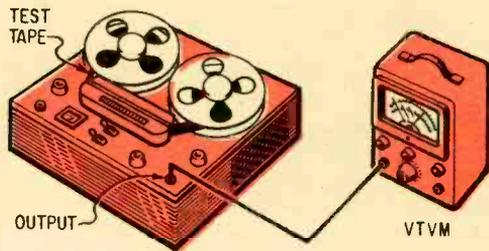

Fig. 1—For playback frequency-response test, measure the machine's output with a test tape that has constant-level tones from 50-15,000 cps.
Crystal Radio. This one's a classic since it's so old and does so much with so little. It demonstrates fundamental concepts applicable to any receiver: tuning, detection and audio reproduction. Its schematic is shown in Fig. 1 along with oscilloscope photos that show the incoming signal and what happens to it.
Fig. 1—Simplest radio is a crystal set—a modern-day version of the old cat's-whisker design. It requires no operating power. Incoming signal is tuned by L1,C1 combination. Selected signal is rectified by D1. RF is stripped away (filtered) by C2. Remaining audio signal drives phones directly. Photos show signals in circuit when the radio receives an 800-kc RF signal which is modulated by a 1,000-cps audio signal. To improve the selectivity, connect (broken line) D1 to the tap (2) on L1.
but nagging things that cause general degradation of performance. If you want to check the results of your efforts, run a frequency-response test. The setup to use is shown in Fig. 1. A test tape (such as Ampex No. 31321-04) is required to provide a series of constant-level signals from 50 to 15,000 cps. If the machine has good playback response it will reproduce each tone equally well, as indicated on the VTVM.
Fig. 1—Because receiver operates near 72 mc, follow layout exactly at left side of board near Q1. Most wiring in our model is on rear of board. We used a dual .01 μ f disc capacitor for C14 and C15.